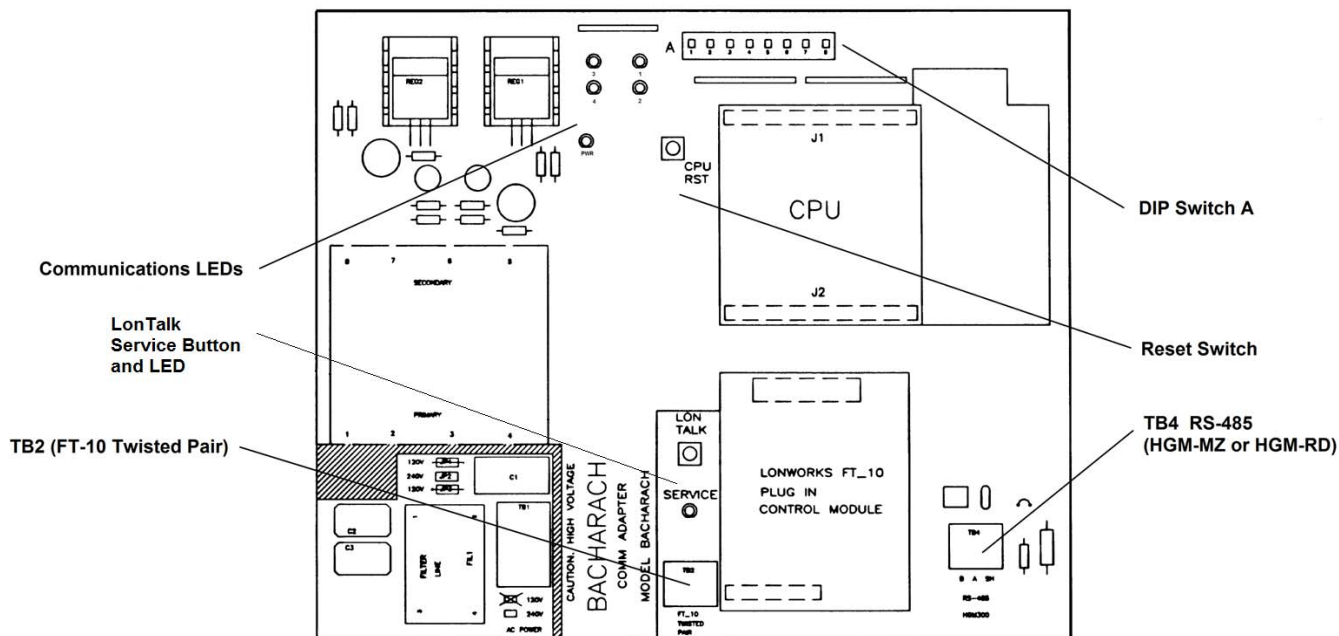

Figure 1 – HGM-MZ-to-LonWorks FT-10 Communications Adapter
See Figure 4 for details of DIP switch A. Refer to Figure 1 for the location of DIP switch A.
1. If the network management software supports identification by service PIN, the adapter's service pushbutton (directly above the FT-10 twisted pair terminal block—see Figure 1) can be pushed when the network management software requests it. This causes a "here I am" message to be broadcast which should be received by the network manager.